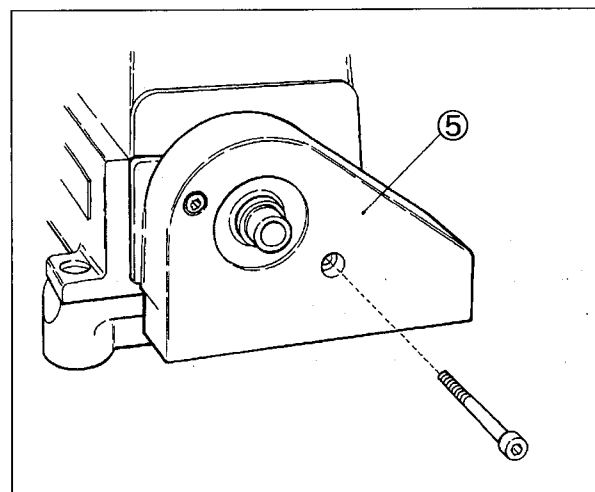

Fig. 2-10
- (1) Install the belt cover⑤. (See Fig. 2-10)